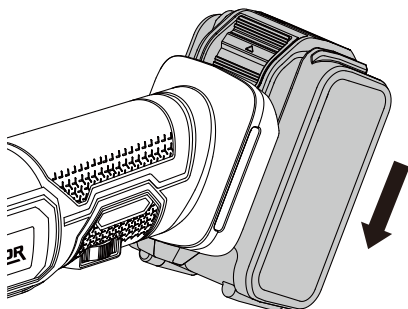

Figure 4-1
4. INSTALLING & REMOVING THE BATTERY PACK (NOT SUPPLIED) (SEE FIG. 4-1 & 4-2)